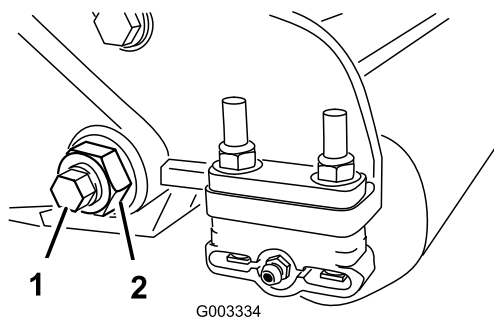
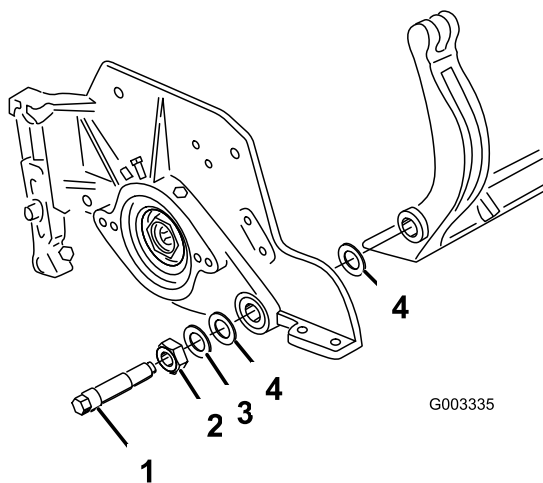

Figure 33
Figure 34
- On each side of the machine, loosen the lock nut securing the bedbar bolt (Figure 33).
- Remove each bedbar bolt allowing bedbar to be pulled downward and removed from machine bolt (Figure 33). Account for 2 nylon and 1 stamped steel washers on each end of bedbar (Figure 34).
- Secure bedbar to each side plate with bedbar bolts (nuts on bolts) and 6 washers. A nylon washer is to be positioned on each side of side plate boss. Place a steel washer outside each of the nylon washers (Figure 34). Torque bedbar bolts to 27-33 ft.-lb. Tighten locknuts until the outside steel washer stops rotating and end play is removed but do not overtighten or deflect side plates. Washers on inside may have a gap.